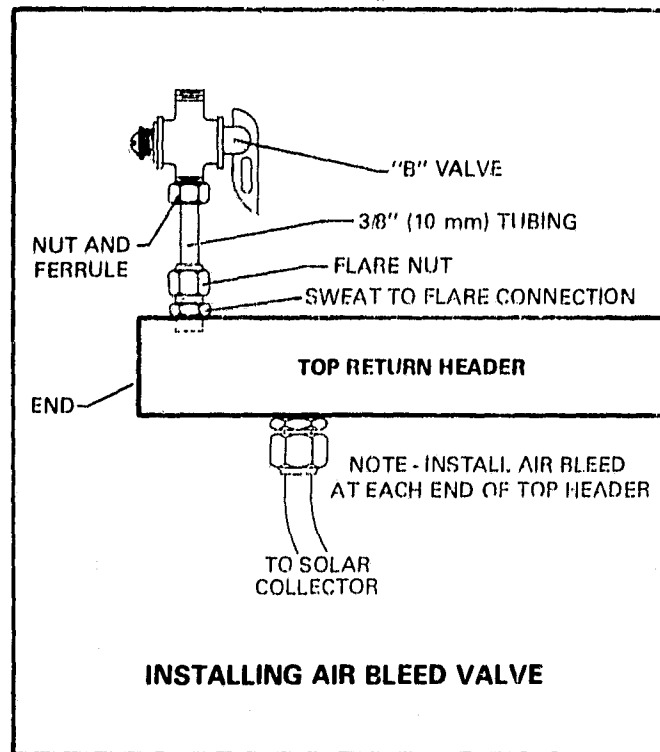

FIGURE 18
- 4 - An air bleed valve must be installed at each end of the return header for the top row of collector cells. Solder a sweat to flare fitting into the ends of return header. Connect a short length of 3/8 inch tubing to flared connection and then secure to a "B" valve with a nut and ferrule. Refer to Figure 18.